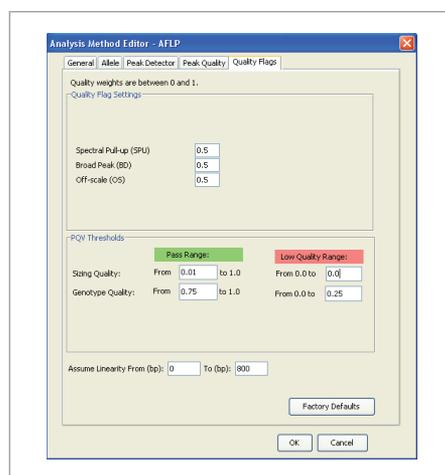

Figure 10. Configuring the Settings in the Quality Flags Tab.
17. Select the Quality Flags tab and configure the settings as shown in Figure 10.